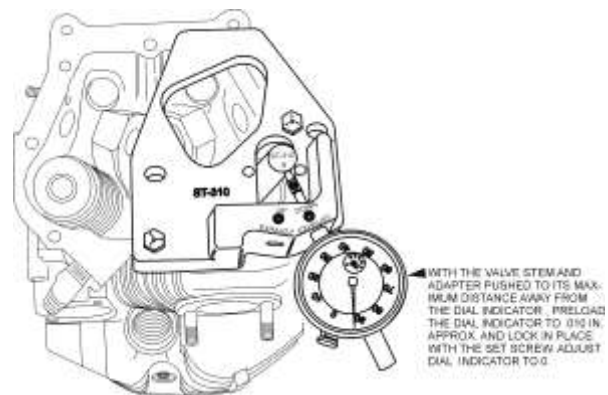

Figure 8
- (17) Use the screwdriver to push the valve and adapter the maximum distance away from the dial indicator as shown in Figure 8.
- (18) Move the dial indicator toward the adapter post until the indicator is preloaded approximately 0.010 in. (0.254 mm), and lock it in place with the set screw.
- (19) Adjust the dial of the indicator to read "0" (zero).